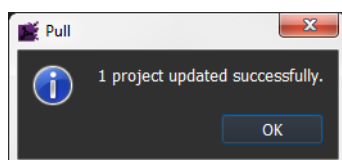

Fig. 8-27: Pull Message
- 5 When the pull is complete a 'pulled successfully' message is shown. See Figure 8-27.